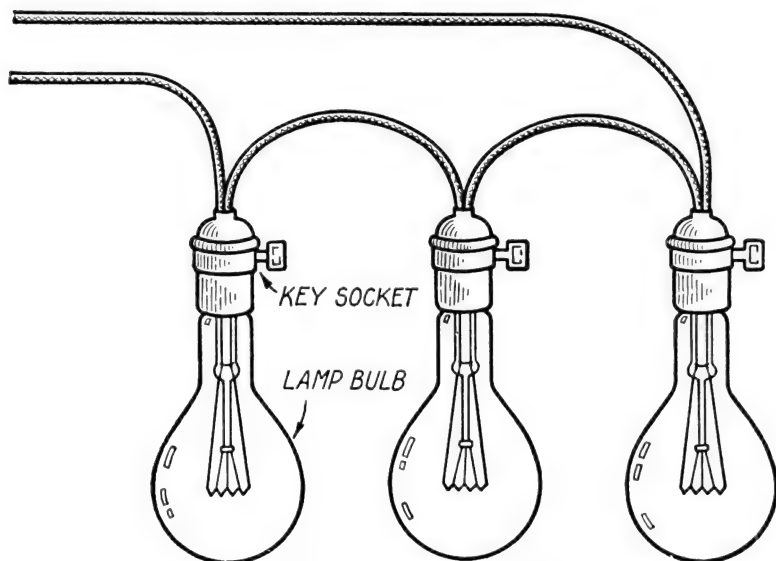

Fig. 7. Method of Wiring Three Lamps in Series
**Objections to Series Circuits.** There are many objections to the use of series connections for lighting circuits. The chief of these being that as the current flows in turn through each lamp, should one lamp burn out or be turned off, then the circuit is opened and all the lights go out. If your house were to have all the lamps connected in a series circuit as shown in Fig. 7, no one could turn out a light until all the people affected were ready to have all the lights put out. Then too, your lamps would have to be of low